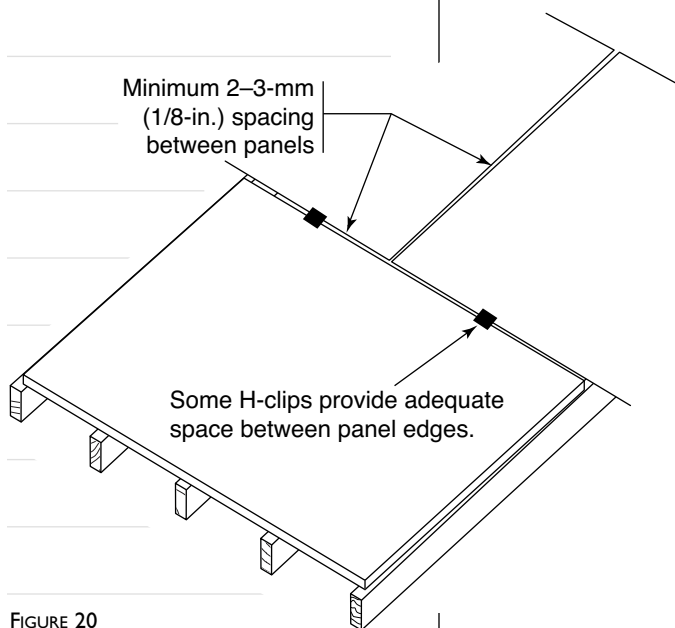

FIGURE 20
- ◆ When using strandboard, waferboard, or plywood for roof sheathing, follow the NBC stipulation of a gap between sheets of not less than 2 mm (1/16 in.). Manufacturers of roof sheathing panels may recommend a larger amount of spacing for their own panels. By using some types of H-clips, you automatically ensure an adequate space between panel edges. However, you must provide adequate space along the ends (see Figure 20).